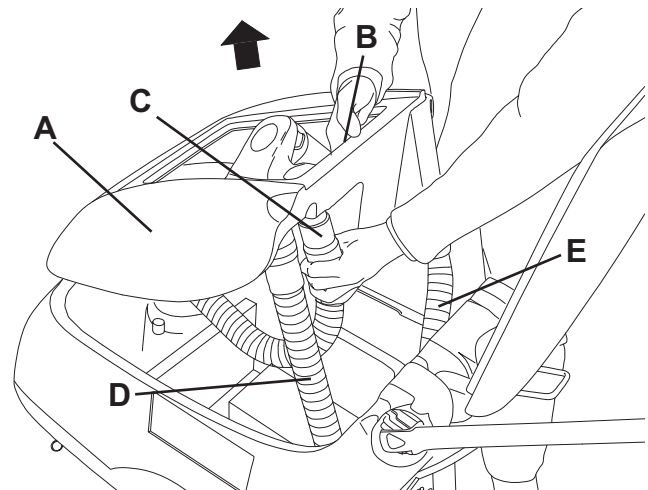

Figure 2
6. Disconnect the vacuum hose (22) from the squeegee (11).
7. Disconnect the recovery water drain hose (16) from the bracket (17).
8. Open the cover (6).
9. Grasp the recovery tank (A, Fig. 2) in the area (B) and slightly raise it.
10. Disconnect the vacuum hose (C) from the tank, then remove the tank (A) with the hoses (D) and (E).
11. Install the batteries on the machine according to the diagram (28).
12. Install the tank (A, Fig. 2) by performing steps 6 to 10 in the reverse order.